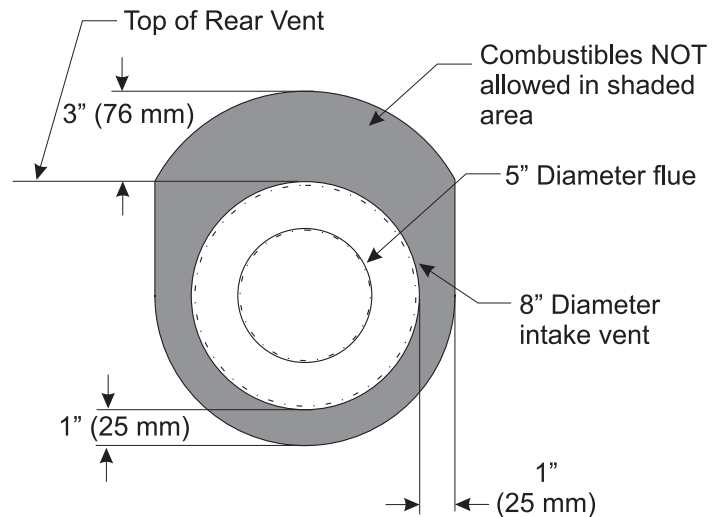

Figure 28
**NOTICE:** For finishing to top of fireplace, refer to **Figures 28 and 30**.
For horizontal vent, maintain a minimum 1 inch clearance to the bottom and sides of the vent, and 3 inch clearance to combustibles above the vent pipe. See Figure 28.